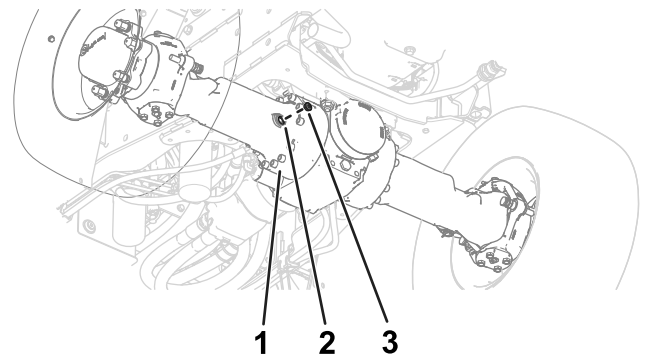

**Figure 96**
3. Move the machine forward or backward until the plug is at the 6 o'clock position (Figure 96).
4. Place a drain pan under the oil port of the wheel hub (Figure 96).
5. Remove the plug and drain the oil from the planetary (Figure 96).
7. Move the machine forward or backward until the plug is either at the 2 o'clock (Figure 96) or the 10 o'clock position.